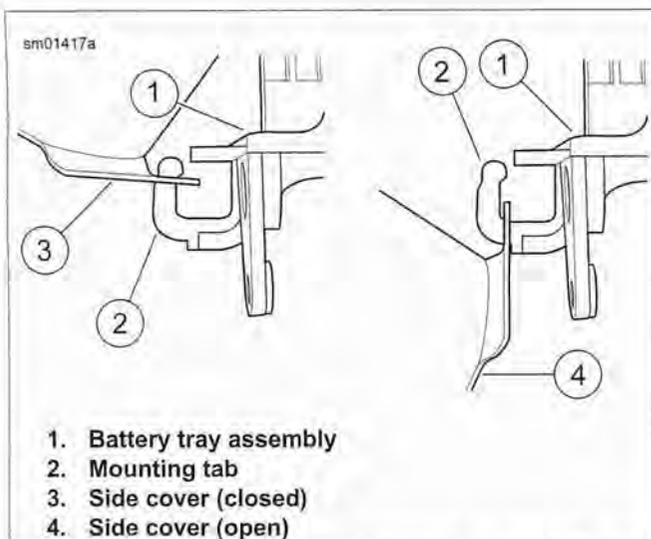

Figure 2-138. Left Side Cover Bottom Mount: All Models
- See Figure 2-138. While rotating top of cover out away from motorcycle, slide cover down slightly so mounting slot on cover slides down mounting tab (2) on battery tray assembly (1). Side cover (4) will now rest on top of rear brake master cylinder reservoir and left passenger footrest (if equipped) with side cover (4) hanging off bottom of mounting tab (2).